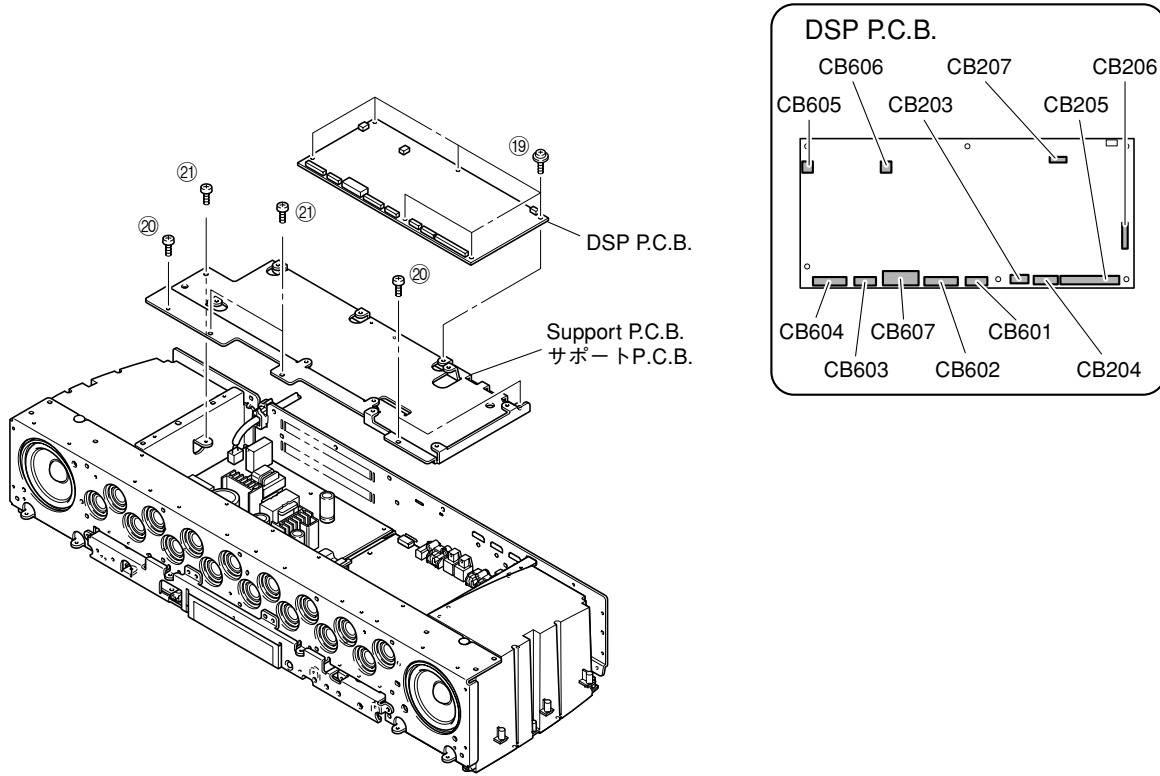

Fig. 5
- a. Remove 6 screws (19). (Fig. 5)
- b. Remove CB203-207 and CB601-607. (Fig. 5)
- c. Remove the DSP P.C.B.. (Fig. 5)
- a. 19のネジ6本を外します。(Fig. 5)
- b. CB203-207、CB601-607を外します。(Fig. 5)
- c. DSP P.C.B.を取り外します。(Fig. 5)
7. Removal of INPUT (1) and (2) P.C.B.s
* When replacing INPUT (1) and INPUT (2) P.C.B.s, be sure to replace them at the same time. Installing either P.C.B. of different version from the other may cause failure of operation.
- a. Remove 3 screws (20). (Fig. 5)
- b. Remove 3 screws (21) and then remove the binding tie. (Fig. 5)
- d. Remove the support P.C.B.. (Fig. 5)
- a. 20のネジ3本を外します。(Fig. 5)
- b. 21のネジ3本を外し、束線止めを外します。(Fig. 5)
- d. サポートP.C.B.を取り外します。(Fig. 5)